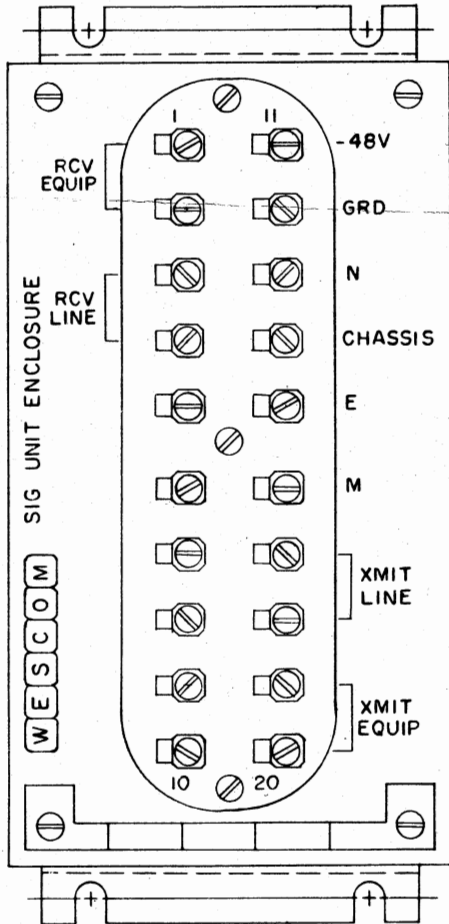

Fig. 2. W702-E4B Rear View
3.01 Twenty terminals are brought out at the rear of the mounting and secured to a terminal board as shown in Fig. 2.